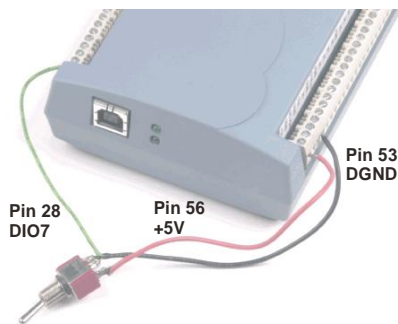
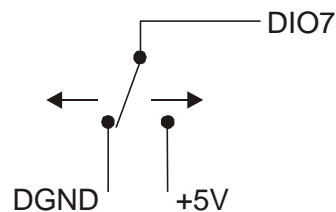

Figure 6. DIO7 detecting the state of a switch
Figure 7. Schematic showing DIO7 detecting the state of a switch
When you configure the digital bits for input, you can use the digital I/O terminals to detect the state of any TTL level input. Refer to the switch shown in Figure 6 and the schematic shown in Figure 7. When the switch is set to the +5 V USER input, DIO7 reads *TRUE* (1). If you move the switch to DGND, DIO7 reads *FALSE* (0).